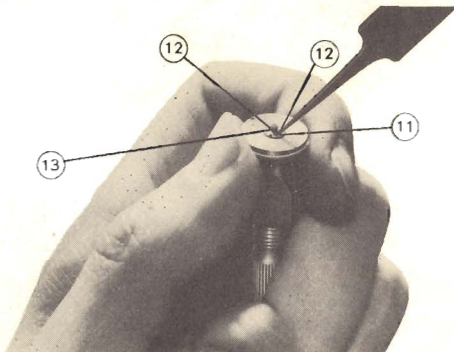

Fig. 2
- a) Hold the *Barrel Arbor* with *Pin Vise* (See Fig. 2) and wind the spring slightly ( $\frac{1}{8}$ th of a turn) to loosen *Disc 11* (Fig. 2).
- b) Unscrew the two screws (Fig. 2) completely.
- a) Hold *Barrel Arbor* in *Pin Vise* as shown in Fig. 2.
- c) Place *Disc 11* (Fig. 2) back into position by screwing up as far as it will go (turn towards left). Line up the two screw holes in the *Disc* with those in the cover.
- d) Replace two screws 12 (Fig. 2).